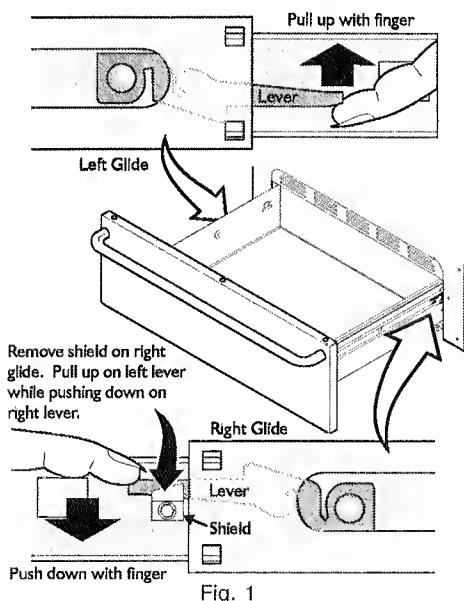

Fig. 1
3. On the right glide you will find a shield attached with a hex-head screw (see figure 1). Using a 1/4" socket and ratchet remove the shield.